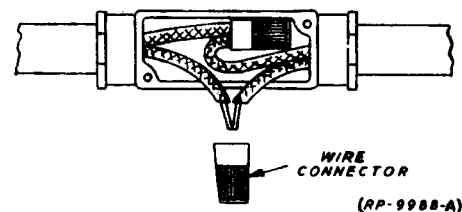

FIG. 3 SPLICING WITH SMALL WIRE CONNECTOR (PAR. 4.31, 4.41)
4.31 No. 10, 12, and 14 AWG used in power service circuits are spliced in approved boxes, fittings, wireways, gutters, enclosures, etc., with R-3045 and R-3046 wire connectors. See Figure 3.